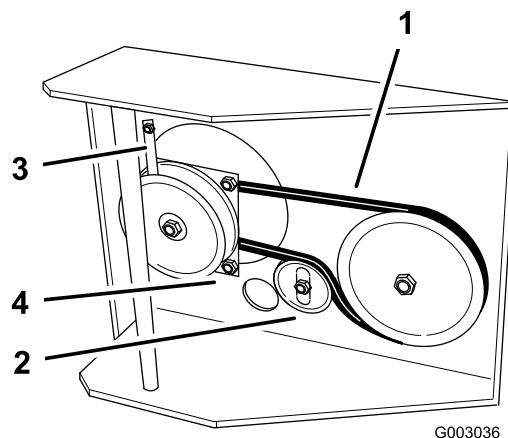

Figure 41
8. Unhook the clutch retainer from the clutch and remove the retainer (Figure 41).
9. Loosen the idler mounting bolt enough to move the idler pulley and remove the traction belt from the drive pulley and clutch (Figure 41).
11. Hook the clutch retainer into the clutch and secure it to the frame with the engine mounting bolt (Figure 41).
12. Torque pivot bolt to 170-220 in-lb (19-24 N-m) (Figure 41).